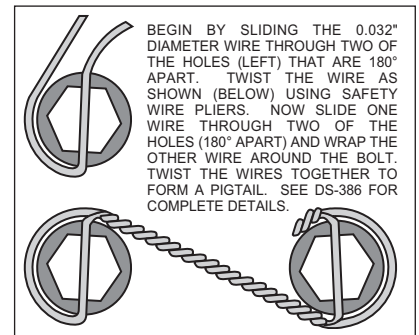

Figure 2. Safety Wire Diagram
- Apply red *Loctite*® 271 to bolt threads (2 and 4) before assembly of the caliper bracket (1) to backing plate face of spindle. Then install bolt (4) through caliper bracket (1), spindle face and the steering arm. Finger tighten the bolt (4) with lock nut (5). Install and finger tighten two bolts (2) with lock nuts (3). Torque two bolts (2) to 47 ft-lb. Torque bolt (4) to 120 ft-lb. **NOTE:** Be sure the heads of the caliper bracket (1) insert nuts are facing outward toward the wheel.
- Install five new wheel studs (6) into the hub (7). Torque to 77 ft-lb. **NOTE:** There are two five lug patterns in the hub (5 x 4.00 and 5 x 4.50). Make sure of the correct hole pattern for the correct wheel application before installing studs into hub.
- Pack the large inner bearing cone (8) with high temperature disc brake bearing grease (available from your local auto parts store) and install into the backside of the hub (7).
- Install the grease seal (9) by pressing into the backside of the hub (7).
- Attach rotor adapter (10) to rotor (11) using six bolts (12). Torque bolts (12) to 180 in-lb. Safety wire bolts (12) using standard 0.032 inch diameter stainless steel safety wire as shown in Figure 2. Please refer to Wilwood's data sheet DS-386 (available at www.wilwood.org/ds386.pdf) for complete safety wire installation instructions. **NOTE:** The flat side of the rotor (11) lugs face toward the rotor adapter (10) with the dished side of the rotor adapter (10) facing away from the rotor (11).
- Mount the adapter/rotor assembly (10 and 11) to the hub (7) using six flat washers (13) and six bolts (14). Torque bolts (14) to 22 ft-lb. Safety wire bolts (14).
- Pack the small outer bearing cone (15) with high temperature disc brake bearing grease. Lightly coat the spindle bearing surfaces with bearing grease. Slide the hub/rotor assembly (7 and 11) with outer bearing cone (15) onto the spindle. Secure using spindle washer (16), existing adjusting nut and nut locking device.